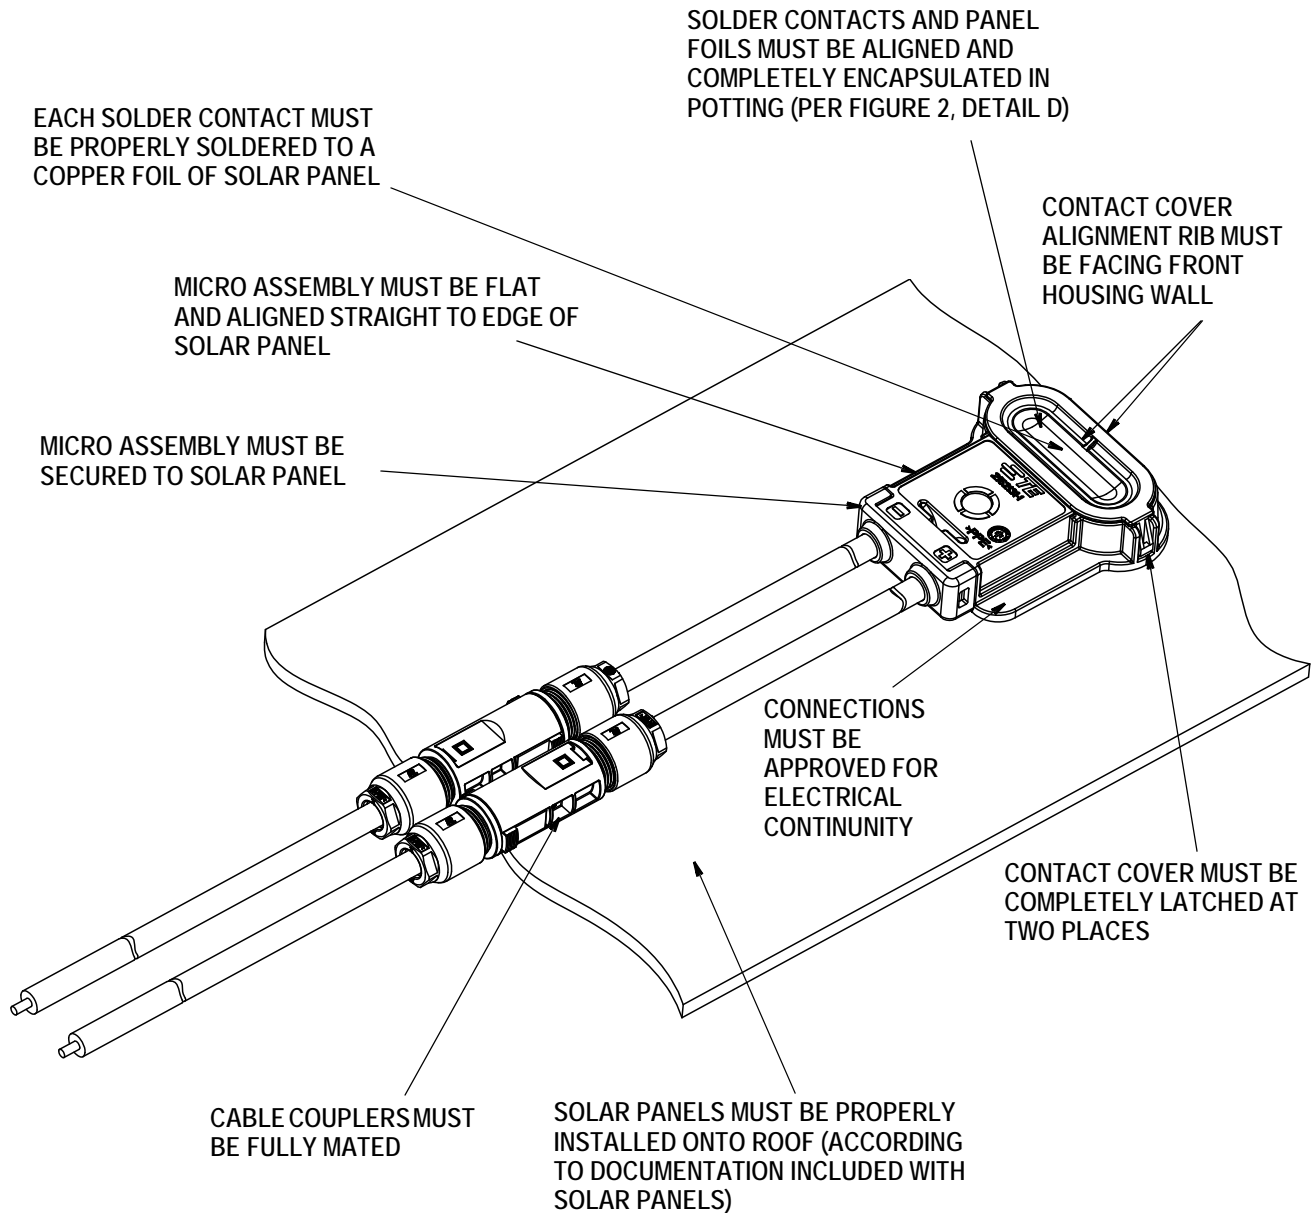

FIGURE 4. VISUAL AID
6. Orient alignment rib of cover (part number 2152144-1) with front housing wall (refer to Figure 4). Apply cover to housing immediately after potting. Cover should be latched on both sides and level with top of housing. Refer to Figure 4. After potting, and with the cover in place, the assembly must be protected from environmental extremes for seven days to permit adequate cure time.